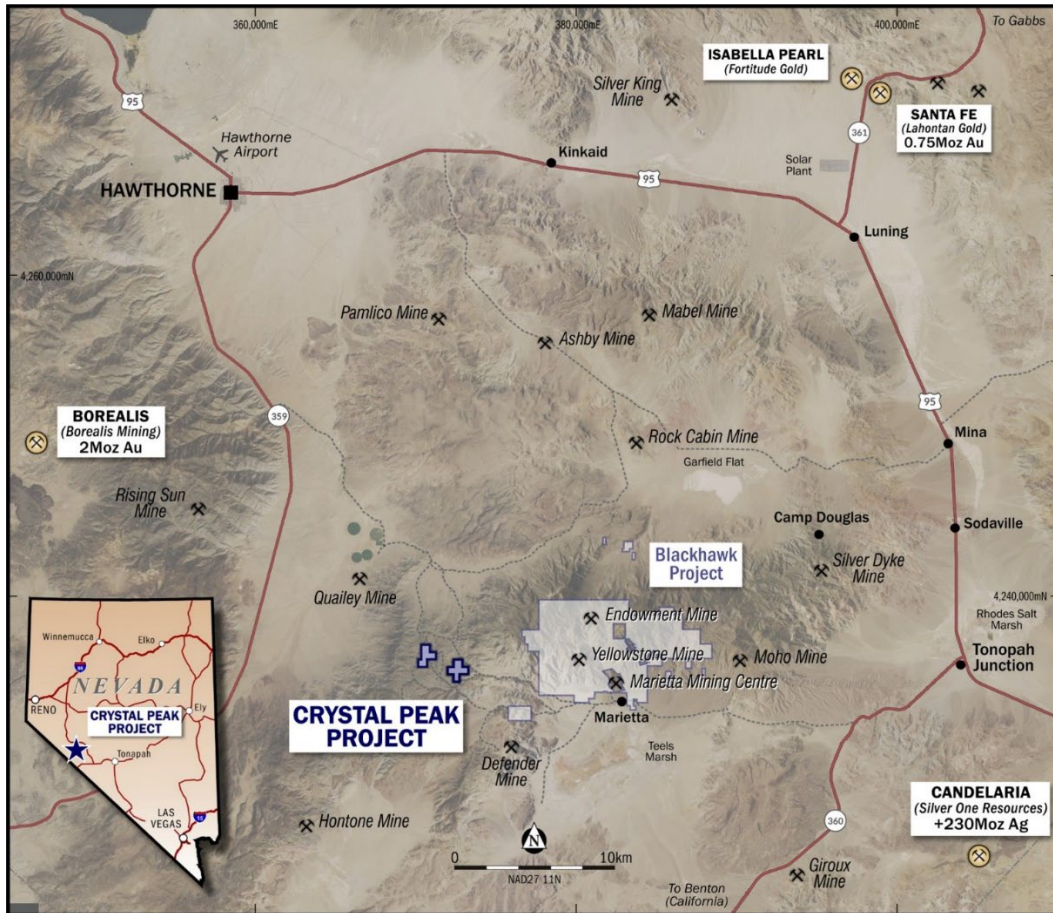

Figure 1: Plan view of newly staked Crystal Peak and G Mine prospects located 10km west of SNX's large-scale Blackhawk Porphyry and Epithermal Projects.
- In conjunction with ongoing work at its nearby Blackhawk Project, Nevada USA, SNX stakes two additional areas prospective for high-grade silver-gold-copper-antimony (see figure 1).
**Sierra Nevada Gold** (ASX: SNX) is pleased to announce it has staked two additional projects prospective for high-grade silver-gold-copper near existing projects in Nevada, USA. The new projects are 10km west of SNX's large-scale Blackhawk Porphyry and Epithermal Projects in Mineral County, SW Nevada (see figure 1).